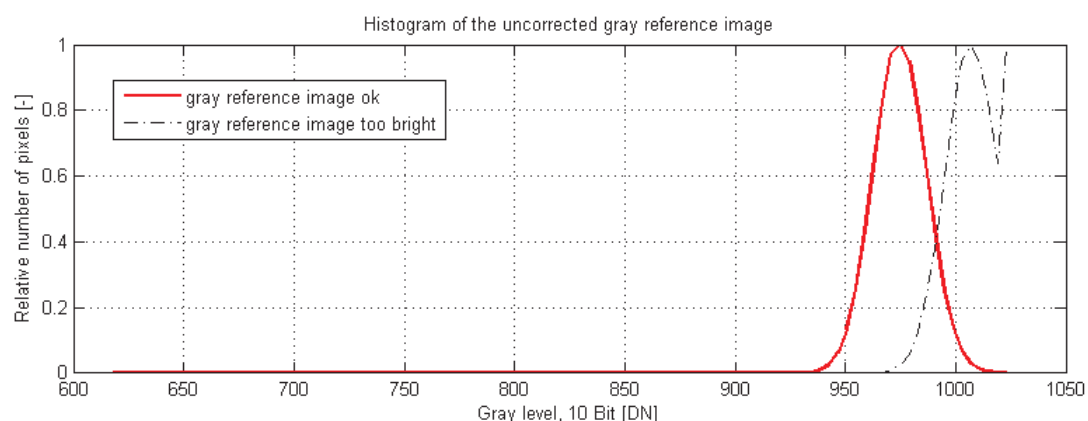

Figure 4.19: Proper grey reference image for gain correction
- When looking at the histogram of the grey reference image, ideally there are no grey levels at full scale (1023 DN @ 10 bit). All pixels that are saturated white will not be properly corrected (see Fig. 4.19).